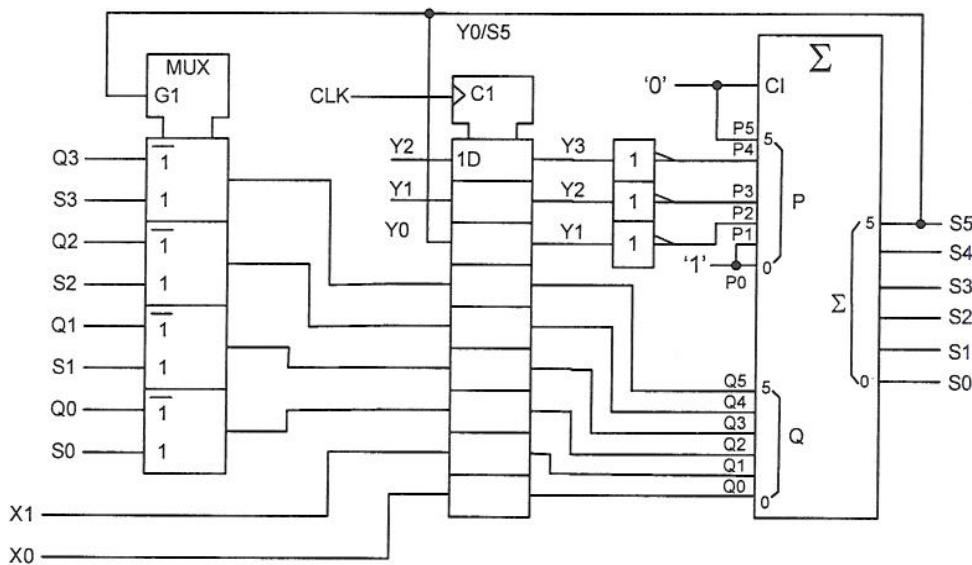

Figure 2.1
2. *Figure 2.1* shows a circuit for calculating the square root of an 8-bit unsigned binary number. The circuit consists of a multiplexer, a register and a 6-bit adder. The register is initially cleared, and then, beginning with the two most significant bits, the 8-bit number is applied, two bits at a time, to $X1:0$ and a clock pulse CLK is applied to the registers. After four pulses on CLK , the desired square root is available on $Y3:0$.